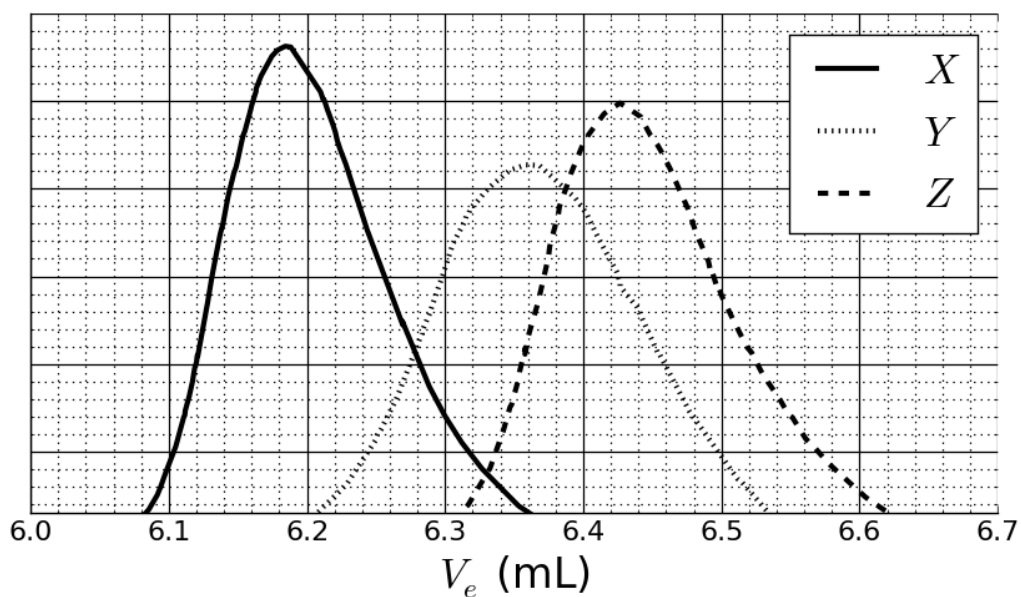

Fig. 2 – SEC chromatograms of **3a**, **3b** and **3c** as a function of the elution volume, V_e .
This reaction of **1** with **2** yielded the copolymers **3a** after 20 h, **3b** after 25 h and **3c** after 30 h of reaction at 40 °C. Results of size-exclusion chromatography (SEC) experiments are found in Fig. 2.
6. **Match** the signals in Fig. 2 with the copolymers **3a**, **3b** and **3c**.
7. Based on the SEC curves in Fig. 2 and Fig. 3, **determine** V_e of the polymer that corresponds to curve X and use it to **estimate** the degree of polymerization m of its second block. **Provide ALL** your calculation; you may use a calculator or plot a graph.